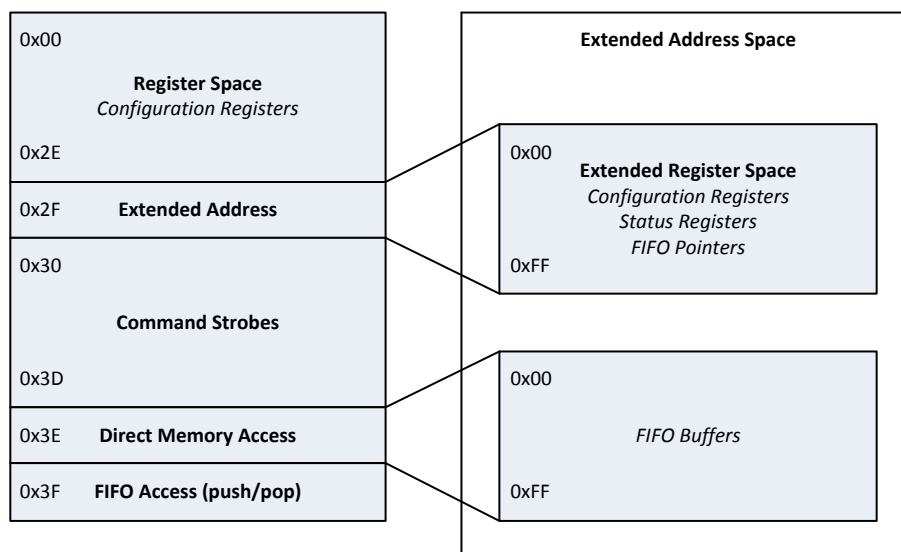

Figure 4: SPI Memory Map
Figure 4 shows the SPI memory map and the following sections are going to explain how the different SPI access types (see Table 3) should be used. Table 4 shows the SPI address space.
The configuration registers on the **CC112K** are located on SPI addresses from 0x00 to 0x2E (register space) with address extension command at address 0x2F to access the extended register space (see Figure 4). All configuration registers can be both written to and read and this is controlled by the R/W bit in the header byte. All configuration registers can also be accessed with the burst bit (B) set to either 1 or 0. Note that all registers in register space (address 0x00 - 0x2E) have retention. In extended register space, the status registers and FIFO pointers do not have retention. Please see Table 5 for details.